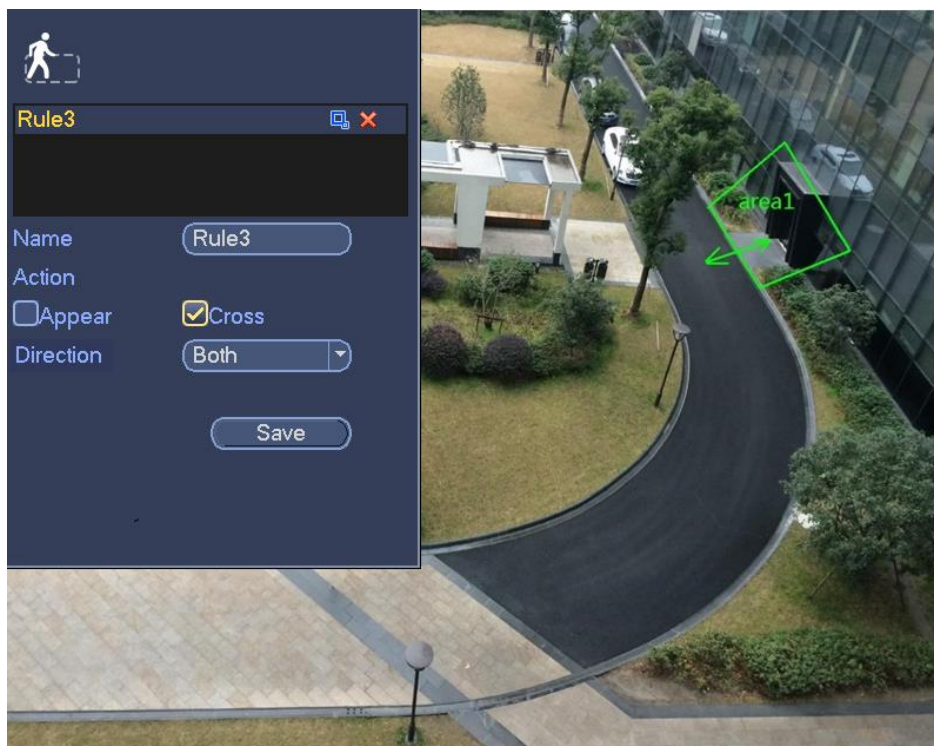

Figure 4-149
1. Click draw button  to draw the zone. See Figure 4-149.